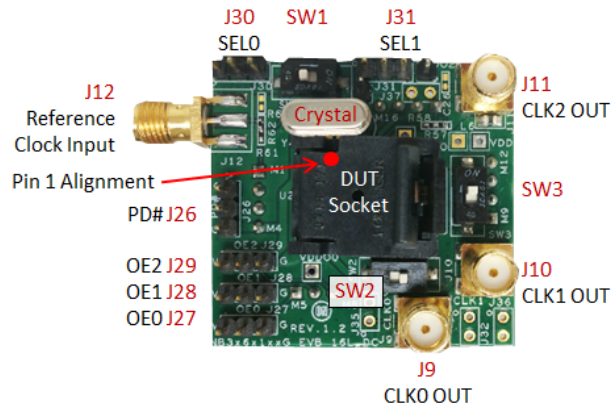

Figure 4. 16QFN Daughter Board
4. Place NB3H63143G or NB3V63143G in DUT socket U2. For device pin 1 alignment refer to Figure 4.